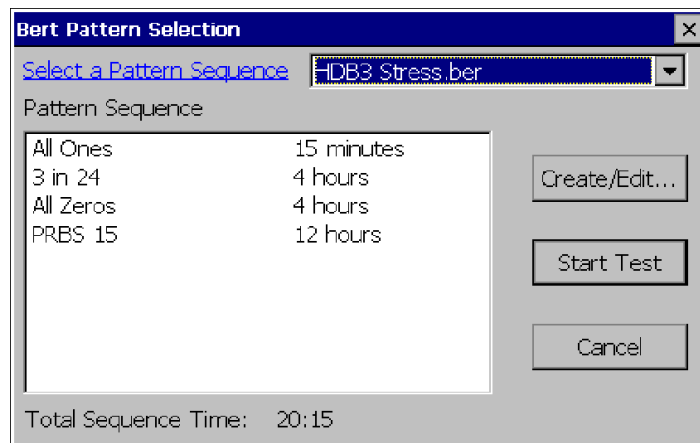

Figure 3-9: Auto Test BERT Pattern Selection dialog
1. Select the **Auto Test** button to open the Bert Pattern Sequence dialog. See Figure 3-9.